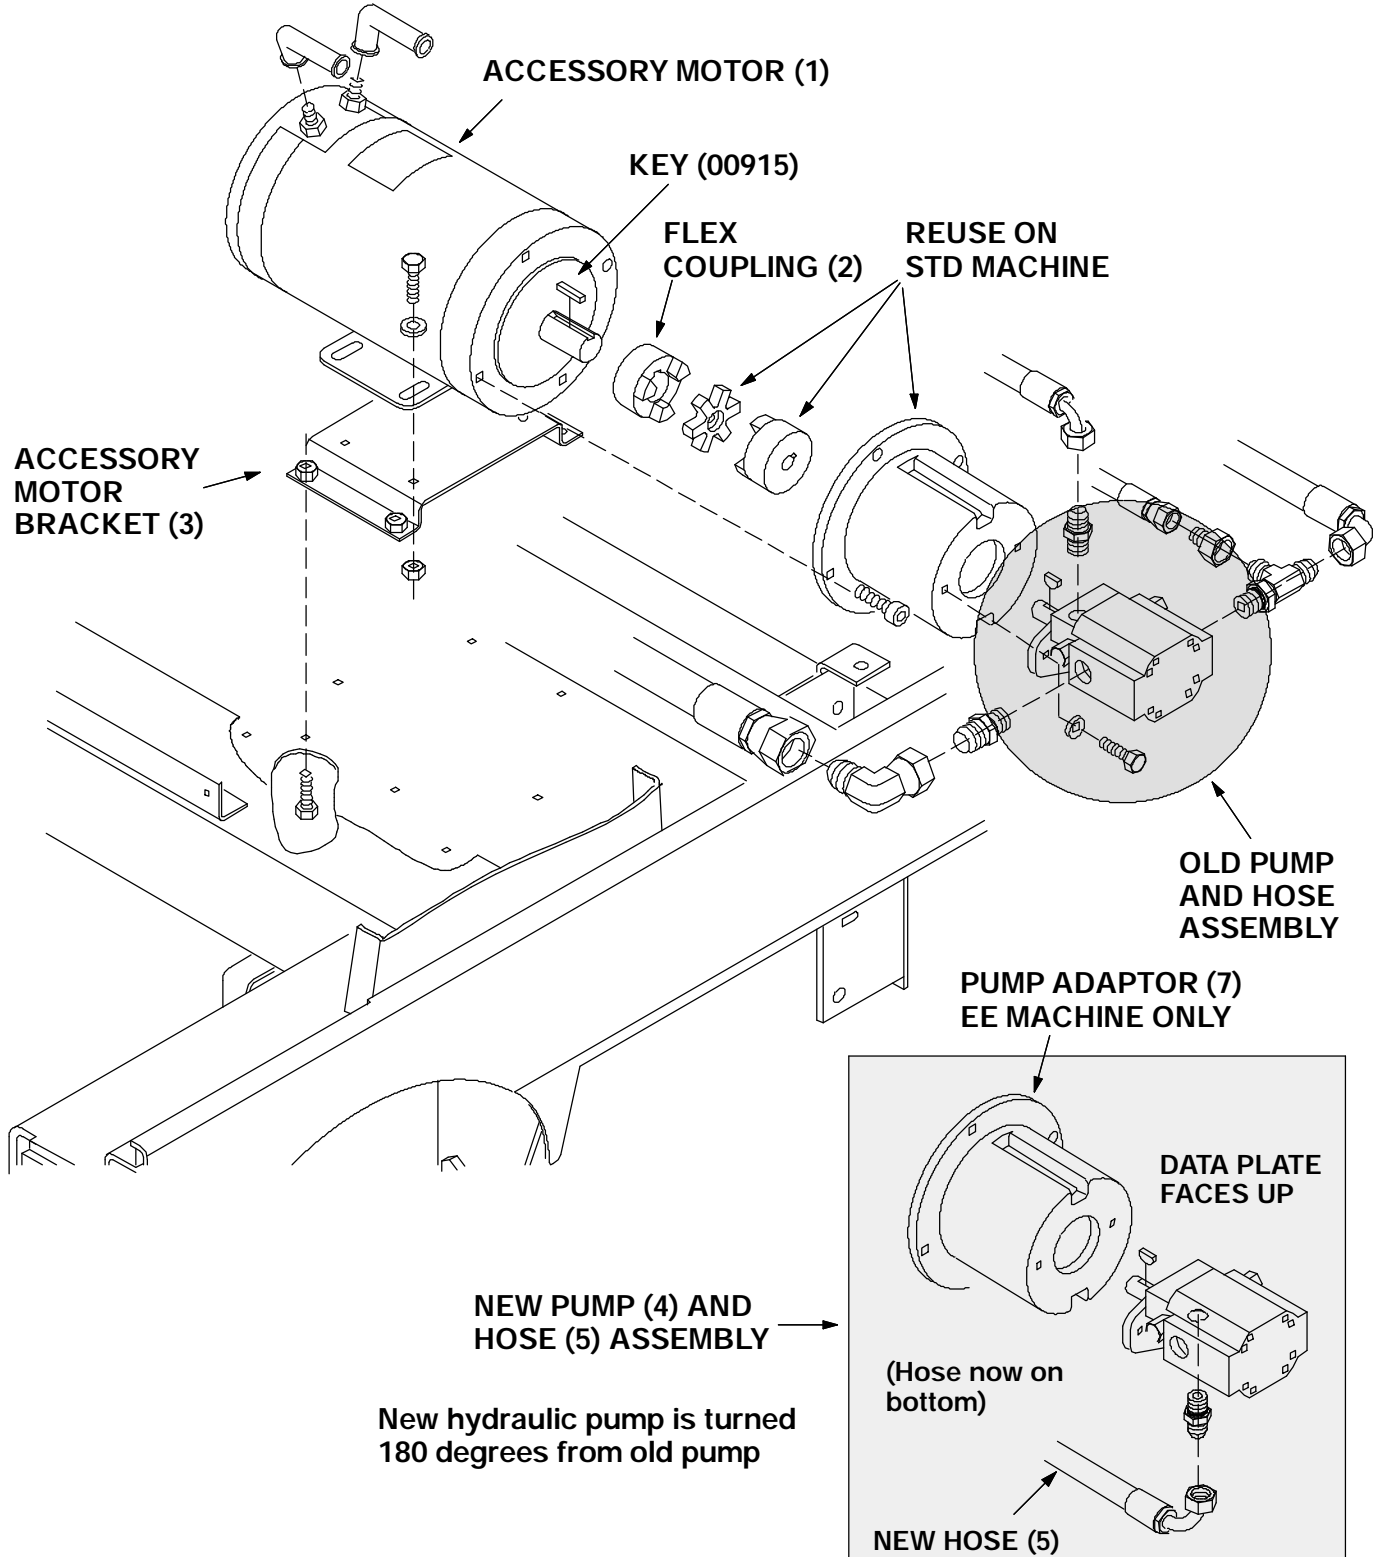

FIG. 1 - ACCESSORY MOTOR, COUPLING, PUMP ADAPTOR, AND PUMP ASSEMBLY
(Refer to FIG. 1 and 2)
(Refer to FIG. 1)
8. **If your machine is an EE version-** remove the hydraulic fittings and 2 pump mount screws. Discard the accessory motor, hydraulic pump, pump adaptor, and pump mount bracket. (Refer to FIG. 1 and 2)
9. **If your machine is a standard version--**remove the four screws holding the pump and pump adaptor to the accessory motor. Pull the pump adaptor and pump off the accessory motor. (Refer to FIG. 1)
10. **If your machine is a standard version--**Loosen the set screws holding the flex coupling to the hydraulic pump shaft. Remove the flex coupling and flex spacer from the old pump. Remove the hydraulic fittings and discard the accessory motor, hydraulic pump, and accessory motor bracket. Retain the pump adaptor for re-use. (Refer to FIG. 1)
1. Install the hydraulic fittings in the new pump (4) in the same orientation as they were removed. (Refer to FIG. 1)
NOTE: The new pump (4) is at a 180° rotation from the orientation of the old hydraulic pump. The fitting and hose that were on top of the old pump are now on the bottom of the new pump (4). (Refer to FIG. 1)
2. **If your machine is a standard version-** install the new pump (4) on the old pump adaptor. Place a small amount of adhesive (6) on the threads of the two pump mount screws. Install the screws and tighten to 18 - 24 Nm (15 - 20 ft lb). (Refer to FIG. 1)
4. **If your machine is a standard version-** install the existing flex coupling and flex spacer on the shaft of the new pump (4). Position the coupling so it extends slightly past the end of the pump shaft. Hand tighten the set screws firmly. (Refer to FIG. 1)
NOTE: Place a small amount of grease on the pump and motor shafts before re-assembly. (Refer to FIG. 1 and 2)
7. Install the new flex coupling (2) on the new electric motor (1). Position the coupling so it extends slightly past the end of the pump shaft. Hand tighten the set screws firmly. (Refer to FIG. 1 and 2)
8. Install the pump, adaptor, and coupling assembly on the new electric motor. Reinstall the four screws and tighten to 31 - 40 Nm (27 - 35 ft lb). Place a small amount of adhesive (6) on the threads of the four pump adaptor mount screws. (Refer to FIG. 1)
9. Install the new accessory motor bracket (3) on the new motor and pump assembly. Slide the motor and pump assembly back in the slots as far as it will go before tightening the four screws and nuts. Tighten to 11 - 14 Nm (7 - 10 ft lb). (Refer to FIG. 1)
10. Install the motor/pump assembly and mount bracket in the machine. Reinstall the four screws and tighten to 18 - 24 Nm (15 - 20 ft lb). (Refer to FIG. 1)
11. Reconnect the hydraulic hoses to the new pump. **Note: the hose that went to the fitting on top of the old pump needs to be removed and replaced with a new hydraulic hose (5) that is 2" longer. This hose is now connected to the fitting on the bottom of the new pump.** (Refer to FIG. 1)
12. Reconnect the electrical cables to the new accessory motor. (Refer to FIG. 1)